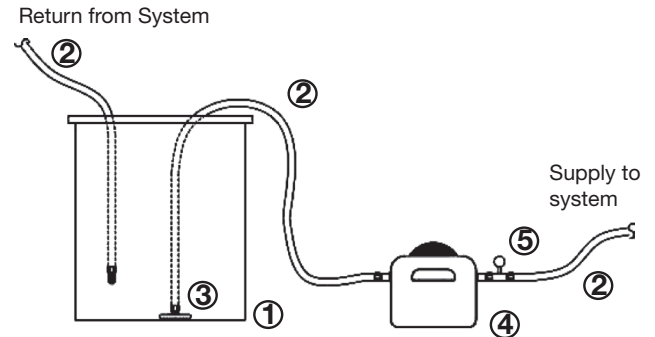

Figure 5-17 Example of a fill and purge kit
The solution can be mixed outside the system in drums or barrels and then pumped in using a fill and purge kit (Figure 5-17) or some other suitable method.
*Use of a fill and purge kit is recommended for snow melt systems. Building a fill and purge kit will allow the fill and purge process to be quick, efficient and easy. Figure 5-17 shows an economical kit (parts supplied by others).